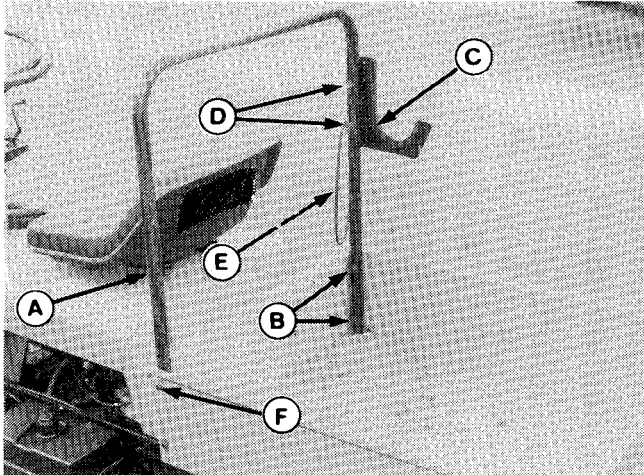
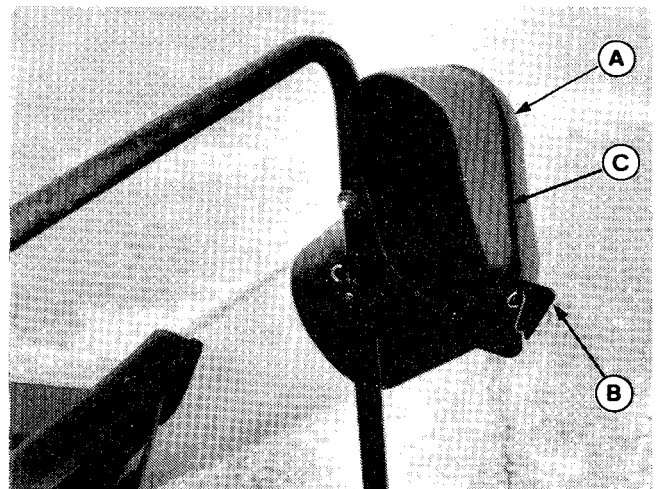

Figure 20.
Figure 23. (Shown without cover for clarity.)
1. Install the frame (A, figure 20) at four locations (B) with 5/16-18 x 1-1/2 capscrew, washer and nut. Install spacers (F) at top capscrew on each side.
2. Attach the bracket (C, figure 20) with two 5/16-18 x 1-3/4 bolts (B), washers and nuts. Attach strap (E) with lower set of hardware.
5. Pick up the cover and place down onto the frame (A, figure 20) inserting the elbow (A, figure 23) into the bracket (B) (shown without cover for clarity). Pull the rubber strap (C) over the elbow and hook into bracket as shown.